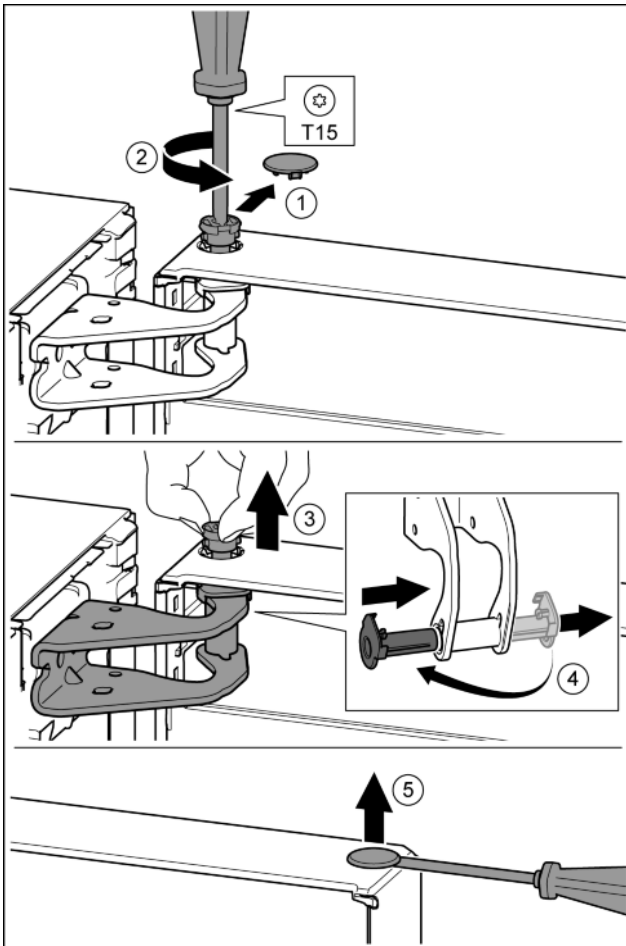

Fig. 13
- ▶ Carefully remove the protective cover. Fig. 13 (1)
- ▶ Undo the bolt a little with a T15 screwdriver. Fig. 13 (2)
- ▶ Hold the door and remove the bolts with your fingers. Fig. 13 (3)
- ▶ Pull the bearing bush out of the guide. Insert from the other side and click into place. Fig. 13 (4)
- ▶ Carefully lift the plugs out of the door bearing bush with a slotted screwdriver and remove. Fig. 13 (5)